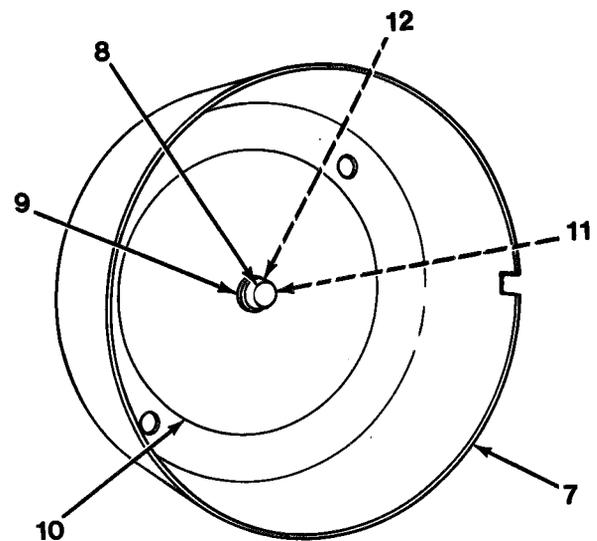

Figure 10-2
16. Install washer (12), capscrew (11), nylon plate (10), nylon washer (9) and cap nut (8) on cover (7, Figure 10-2).